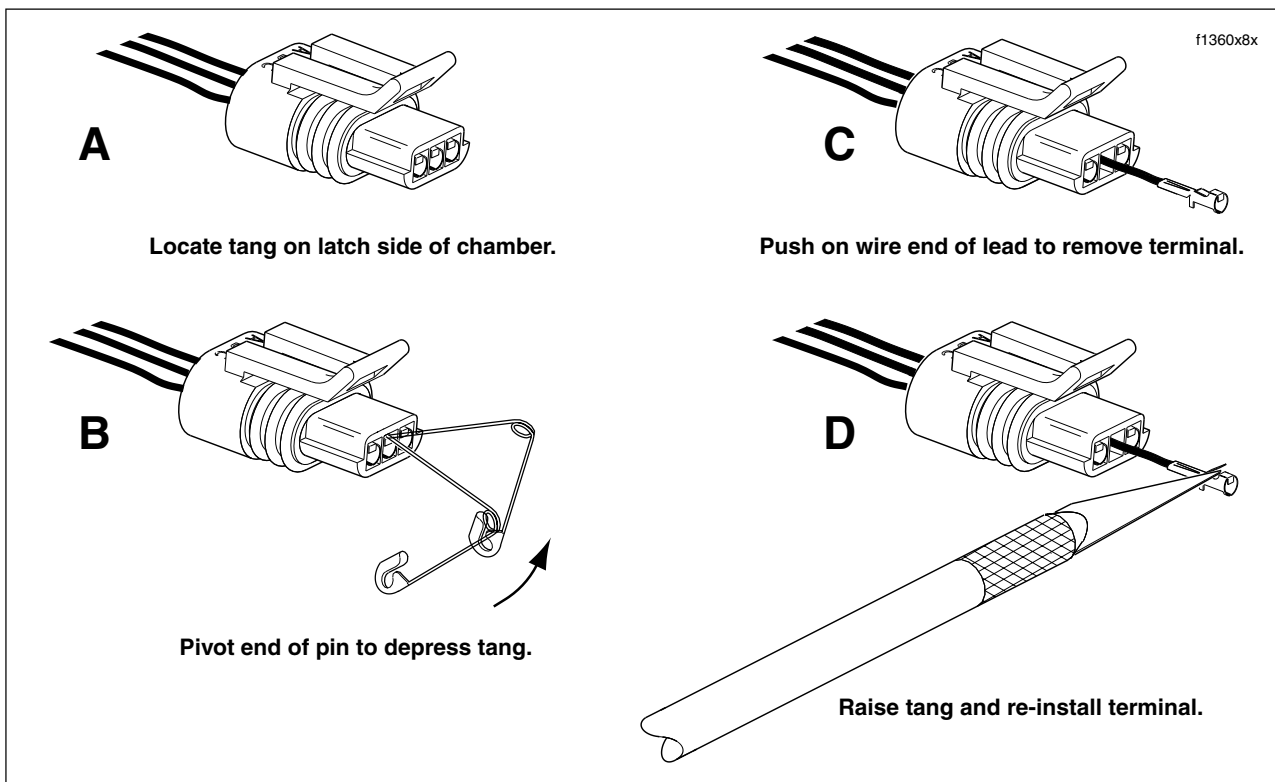
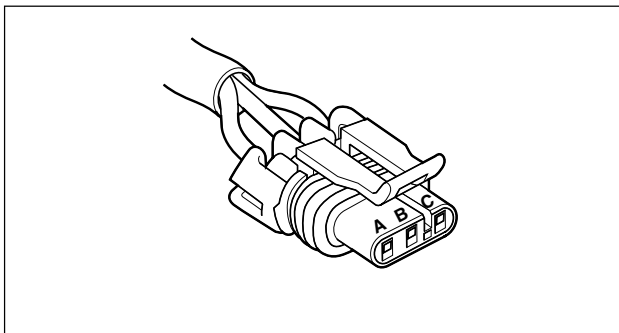

Figure B-18. Depress Tang and Extract Terminal From Mating End of Connector
Figure B-19. Packard Pull-to-Seat Terminal Connector With Locking Ear
3. To free a pull-to-seat terminal from the connector housing, first look into the mating end of the connector to find the locking tang. See A in Figure B-18. The tangs are always positioned in the middle of the chamber and are on the same side as the external latch. On those connectors with locking ears, the tang is on the side opposite the ear. See Figure B-19.
4. At a slight angle, gently insert the point of a one inch safety pin down the middle of the chamber about 1/8 inch (3.2 mm), and pivot the end of the pin toward the terminal body. When a click is heard, remove the pin and repeat the procedure. See B in Figure B-18. The click is the sound of the tang returning to the locked position as it slips from the point of the pin. Pick at the tang in this manner until the clicking stops and the pin seems to slide in at a slightly greater depth than it had previously. This is an indication that the tang has been depressed.
5. Remove the pin and push on the wire end of the lead to extract the terminal from the mating end of the connector. See C in Figure B-18. If necessary, pull back the conduit and remove the wire seal at the back of the connector to introduce some slack in the wires.
- Using a thin flat blade, like that on an X-Acto knife, carefully bend the tang outward away from the terminal body. See D in Figure B-18.